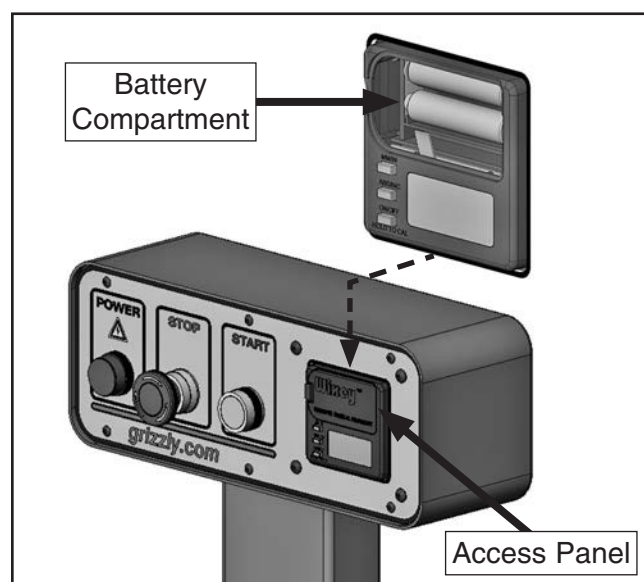

Figure 12. Location of digital readout battery compartment.
1. Remove the access panel on the battery holder cover (see **Figure 12**).